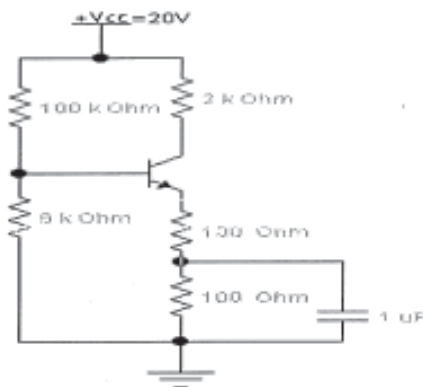

Fig. 1-b
- b) A voltage divider CE amplifier circuit as shown in fig. 1-b, has $\beta = 100$, $V_{BE} = 0.3$ V. Find I_{β} , I_C , V_{CEQ} and S' . **10**